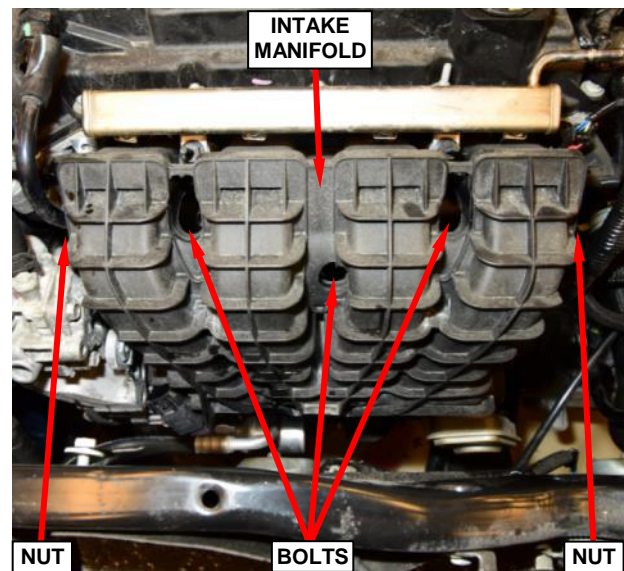

Figure 20 – Intake Manifold
65. Remove and save the intake manifold fasteners, three bolts and two nuts (Figure 20).
66. Remove and save the intake manifold and fuel rail assembly (Figure 20).